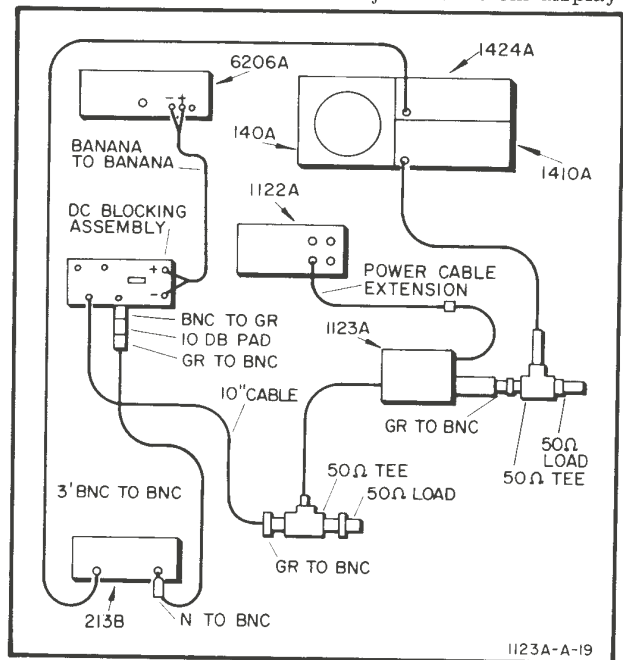

Figure 5-4. Pulse Compression Test Set-up
- a. Connect the equipment as shown in Figure 5-4.